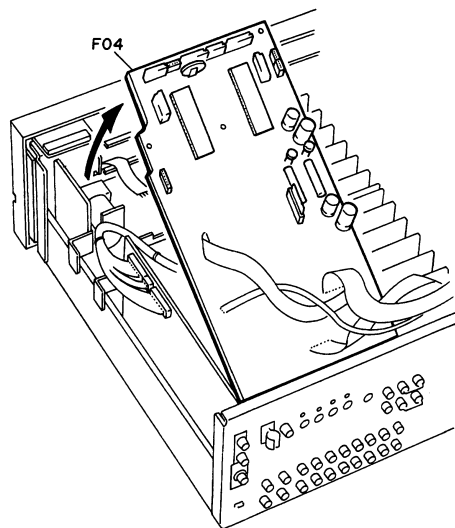

Fig. 2.5.2
- (1) Remove the Top Cover Ass'y referring to item 2.1.
- (2) Disconnect all connectors from F04 (Video & Logic P.C.B. Ass'y). Disconnect flat cables referring to item 2.4.
- (3) Loosen screw F01 (5 pcs.) and F02 (4 pcs.).
- (4) Unhook F03 using pliers.
- (5) Turn F04 (Video & Logic P.C.B. Ass'y) as shown in Fig. 2.5.2.